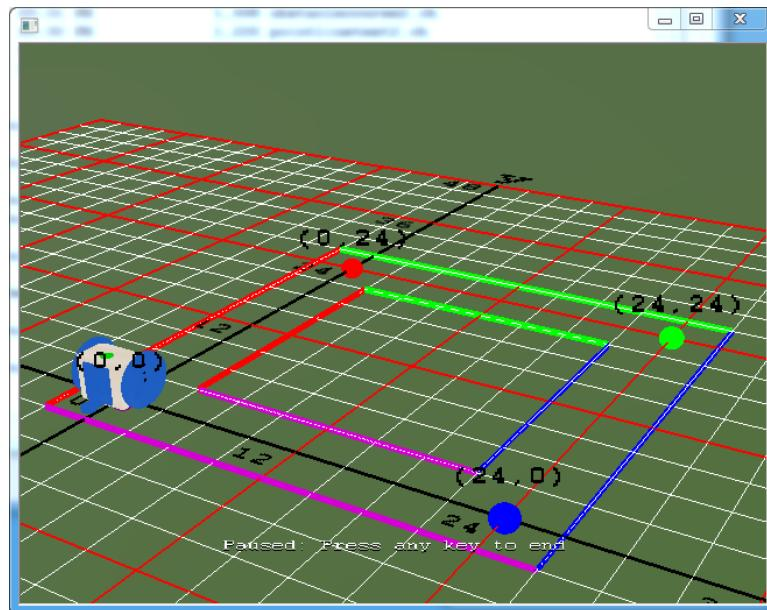

Figure 10.23: The RoboSim scene with an obstacle course by the program `pointlinetext3.ch`
2. Write a program `pointlinetext3.ch` to draw an obstacle course as shown in Figure 10.23. The size for points in the obstacle course is 2. The line width for all lines is 2.
4. Write a program `obstaclecourse3.ch` to drive a robot following the obstacle course as shown in Figure 10.23.